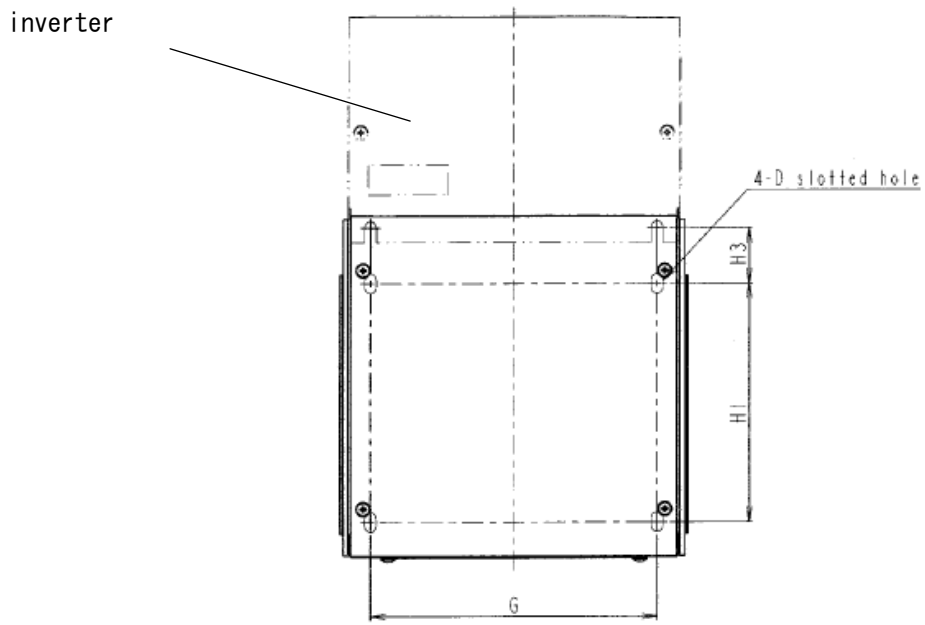
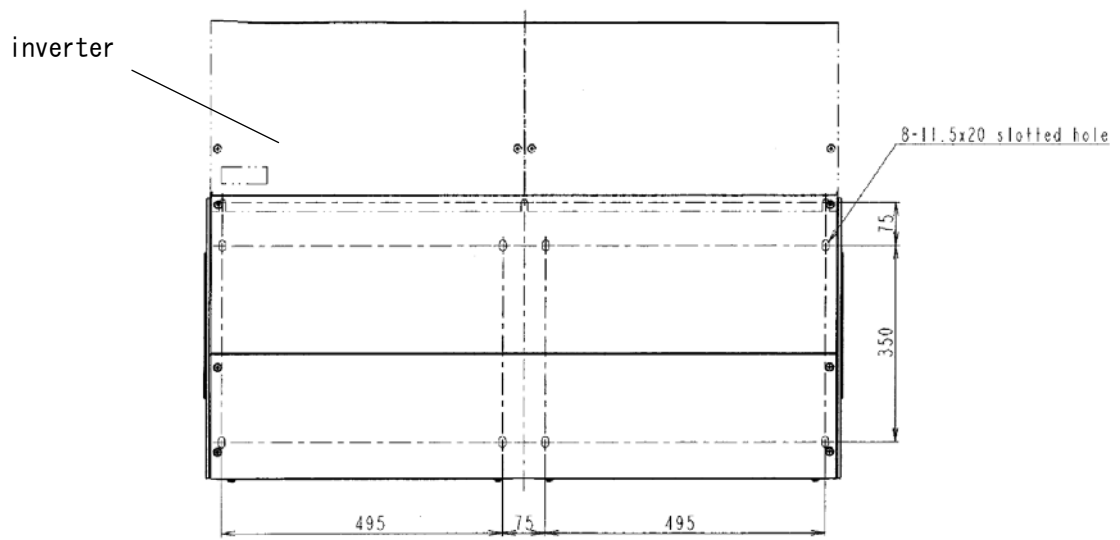

Figure 2
Figure 3
For NEM1109Z or those bigger sizes, a support frame is installed between the conduit box and the board where the inverter is fixed on. The installation dimensions are shown on below table. Please refer to figure 2 for NEM1109Z to NEM1115Z and figure 3 for NEM1116Z.
* Note: see figure 3 for detail dimensions.